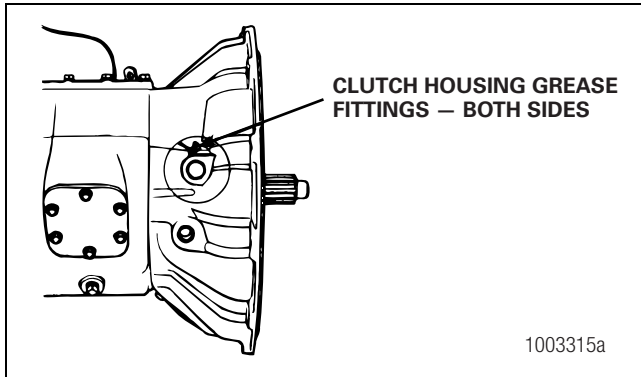

Figure 3.13
2. Grease the release fork cross shaft by applying grease to each fitting on the clutch housing until a small amount of grease purges out. Use the specified lubricant at the recommended interval. Refer to the lubricant specifications and maintenance intervals of the vehicle manufacturer. Figure 3.13.